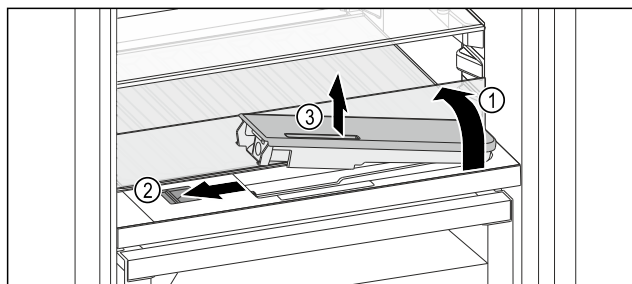

Fig. 232
- Lift the glass panel and fold towards the rear until it clicks into place Fig. 232 (1).
- Slide the slider Fig. 232 (2) to the left.
- Remove the water tank Fig. 232 (3).